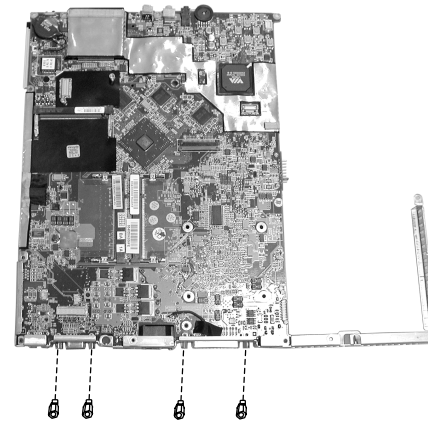

Figure 2-31 Remove four hex nuts
9. Remove four hex nuts beside the VGA port. Now you can lift up system board from housing. (Figure 2-31)